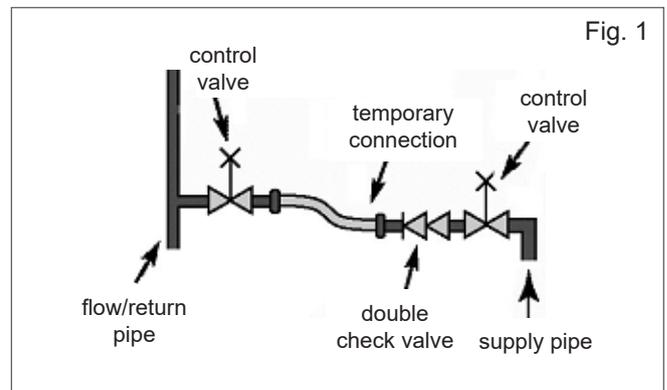

Fig. 1
- Locate the filling valve connections (usually beneath the boiler, see fig. 1).